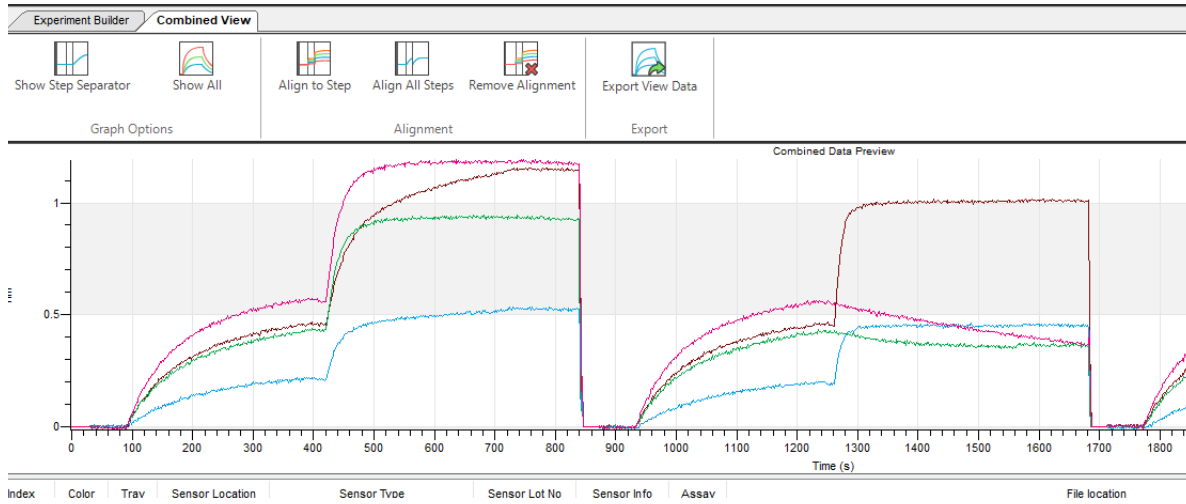

Figure 3-4: Step Dividers Hidden
- Click  (**Hide Step Separator**) to hide step dividers (Figure 3-4) or  (**Show Step Separator**) to show them.